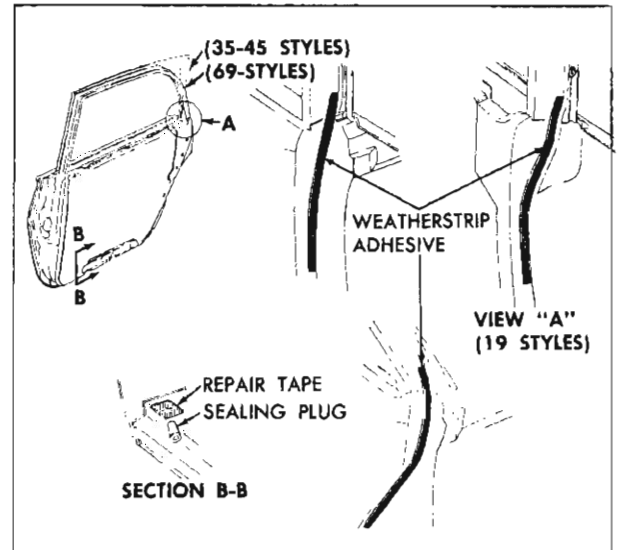

Fig. 39—Rear Door Weatherstrip Adhesive Application
3. Carefully break cement bond securing weatherstrip to door. If necessary, a flat-bladed tool, such as a putty knife, can be used to help break cement bond (fig. 39).
3. Clean off old cement from door to insure a clean cementing surface. Apply a bead of an approved weatherstrip adhesive to hinge and lock pillar facings of door. Begin adhesive application slightly above belt line and continue down door for approximately seven to nine inches. If necessary, weatherstrip adhesive can also be applied to lower corners of door (fig. 39).